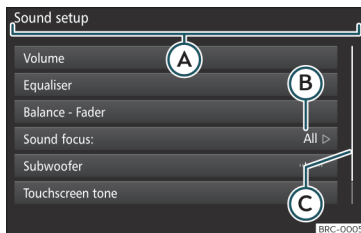

Fig. 152 View of some of the function buttons on the screen.
Function buttons start functions or open submenus. The currently selected menu is displayed in the title bar >>> **Fig. 152** (A) of the submenus.